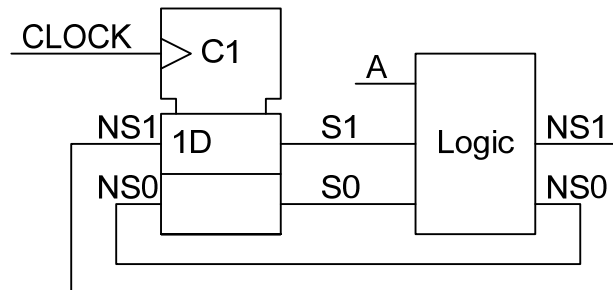

Figure 1.1
1. (a) *Figure 1.1* shows the circuit of a synchronous state machine. The logic block is defined by the following Boolean equations: